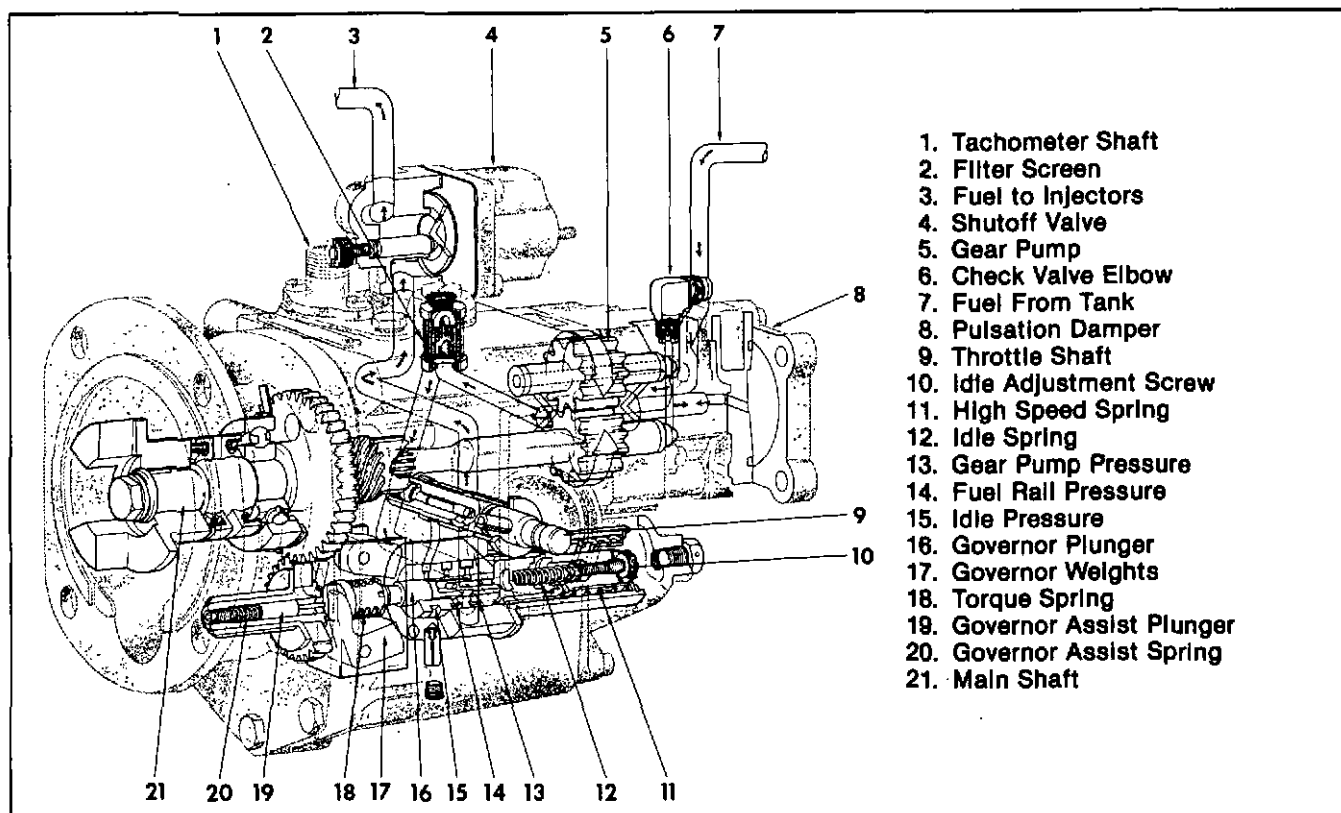

Fig. 10-46, (FWC-31). PT (type G) fuel pump cross-section and fuel flow.
1. Close the idle, leakage and pressure valves. Open the flow control or needle valve wide open. See Fig. 10-46 for a PT (type G) fuel pump.